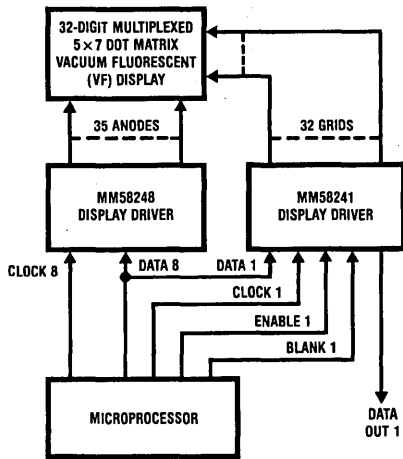

FIGURE 6. Microprocessor-Controlled Word Processor TL/F/5599-7
Figure 6 shows a schematic diagram of a microprocessor-based system where the MM58248 is used to provide the anode drive for a 32-digit 5 x 7 dot matrix vacuum fluorescent (VF) display. The grid drive in this example is provided by another member of the high voltage display driver family, namely the MM58241, which has the additional features of a BLANKING CONTROL pin, a DATA OUT pin, and an ENABLE (external load signal) pin.